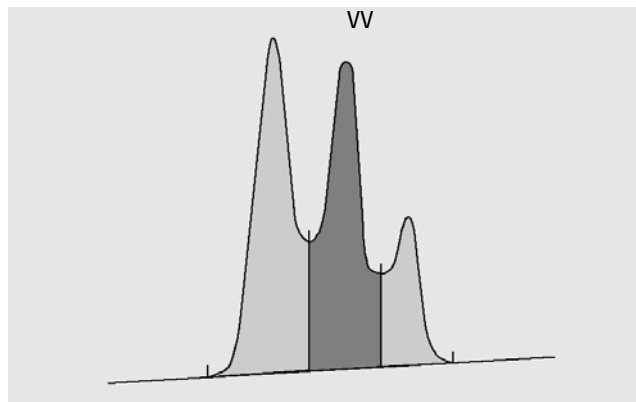

Figure 9 Area Measurement for Valley-to-Valley Peaks
- for valley-to-valley (VV) peaks, the area above the baseline, segmented with vertical dropped lines from the valley points, as in Figure 9 on page 27,